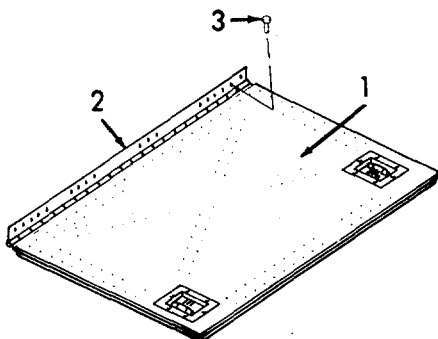

Figure 6-11. Side Door, Installation..
- (a) Remove nut (1), washer (2), and screw (3) that secures the stay (4) to the door (5).
- (b) Remove the stay (4).
- (c) Place stay (4) into position.
- (d) Install screw (3), washer (2), and nut (1) to secure stay (4) to door (5).
e. *Installation (Refer to Figure 6-11).*